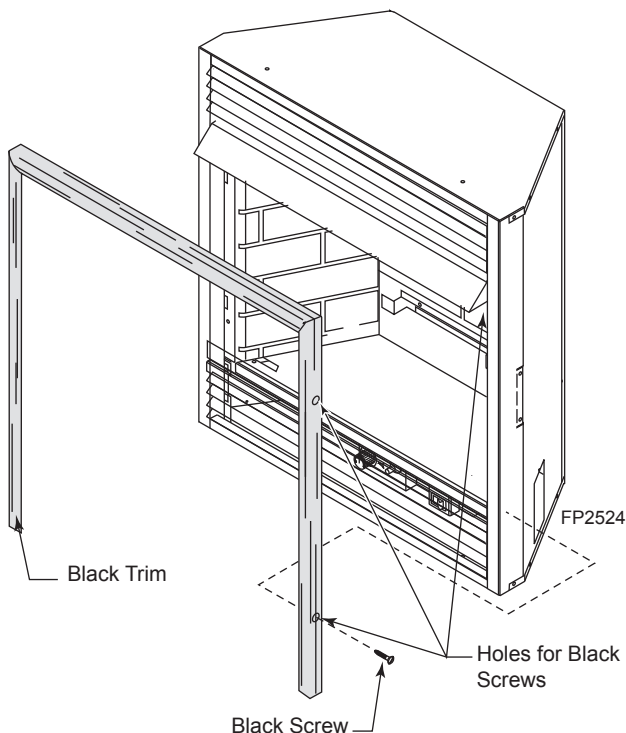

Figure 39 -
NOTE: If you do not attach the trim at the correct corners, use a hammer and screwdriver to tap on the one end of the 90° angle bracket. This will separate the two pieces of trim. *Figure 39*
5. Place assembled black trim on front of heater. Using four (4) black screws, secure black trim to sides of heater. *Figure 39*